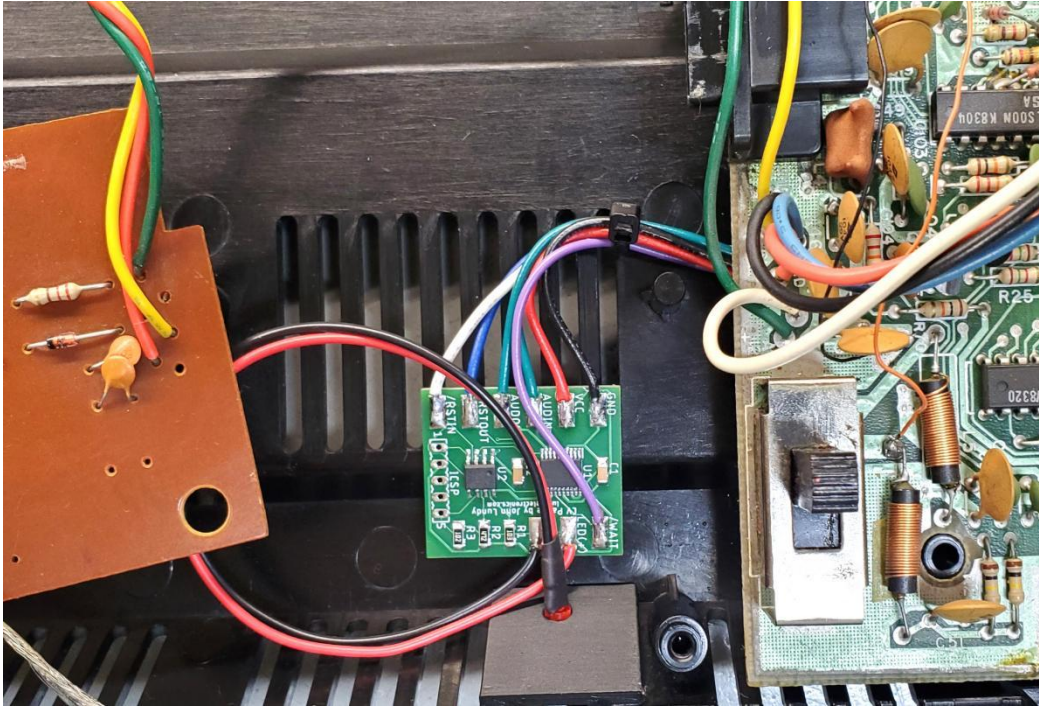

Figure 13: Placement of Pause Mod PCB
Step 10: Reinstall PCB for final mounting installation, place the Pause Mod PCB as shown in **Figure 13**, and push the indicator LED into the mounting bracket. It is designed to fit snugly so it can be removed later if needed. Hot glue can be used to hold it more securely if desired. Note: The Pause Mod PCB is designed to stay loosely in place without the need for permanent mounting to make servicing easier in the future.